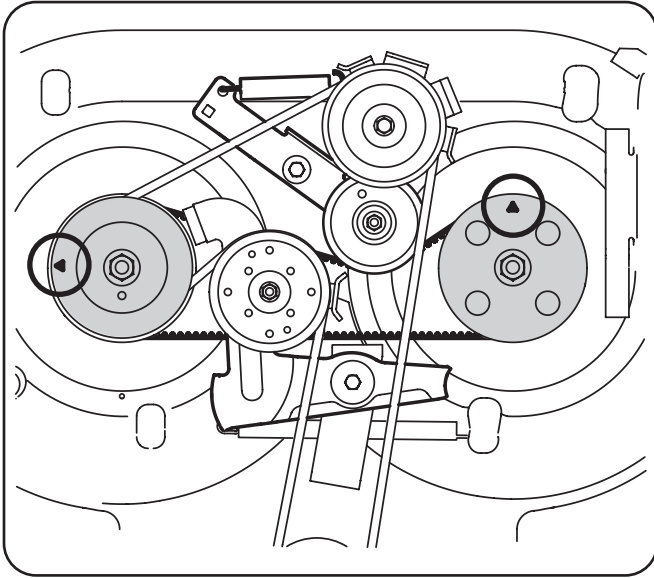

Figure 6-4
- The top of each spindle pulley is marked with an arrow. See Figure 6-4. The arrows should be perpendicular (at a 90° angle) to each other.